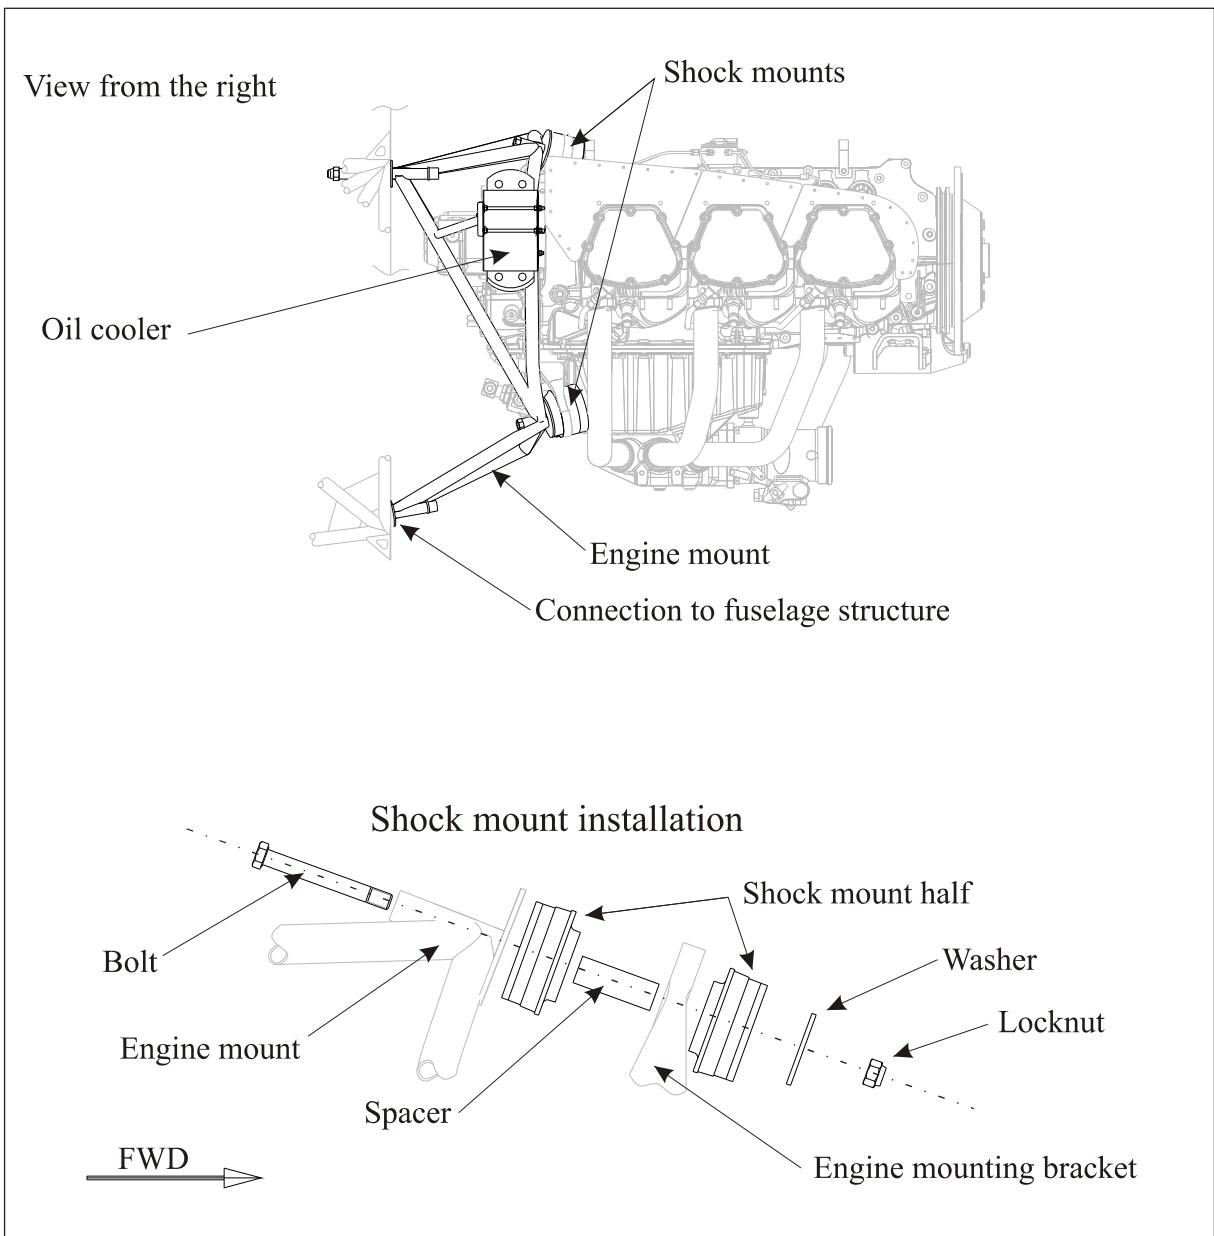

Figure 2
The engine is nested into the engine mount on a system of rubber shock mounts, each of which comprises two rubber elements and one tubular spacer (ref. Figure 2). The shock mounts reduce the transmission of engine vibrations to the airframe.
- 2 Unscrew locknuts of the mounting bolts (refer to Figure 2) at the shock mounts.
Each of the 4 shock mounts consists of two rubber halves and one tubular spacer (ref. Figure 2) fixed by a single bolt.
- 2 Unscrew locknut of the mounting bolt at *one* shock mount (ref. Figure 2).